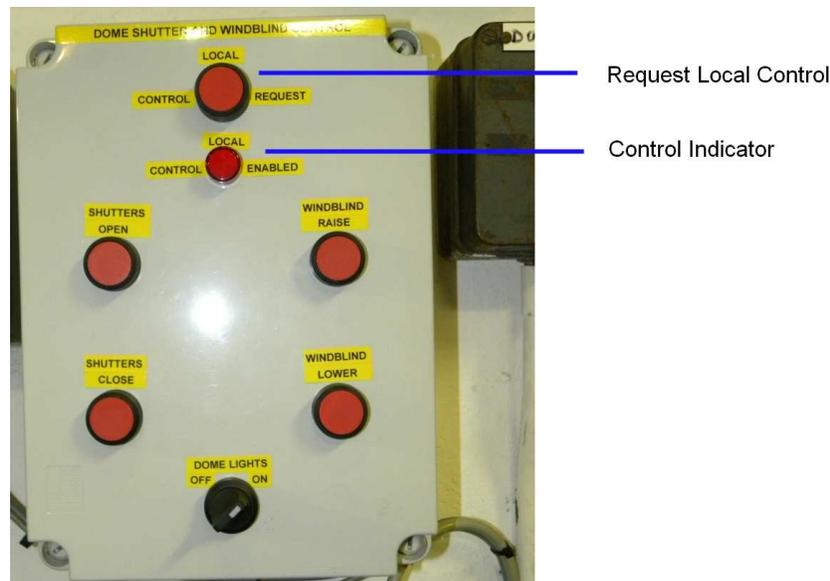

Figure 2.5: Shutters and Wind Blind control panel on the North pier.
3. The catwalk, using the control cabinet by the dome shutters (Fig. 2.5).
The control cabinet and drive electronics are located on the shutter and wind blind assembly on the dome itself (Fig. 2.5), accessible from the catwalk. During normal operation the user will not use this control point, and the “OVERRIDE” switch on the cabinet should be set to “REMOTE” to enable shutter and blind control from the TCS and observing floor.